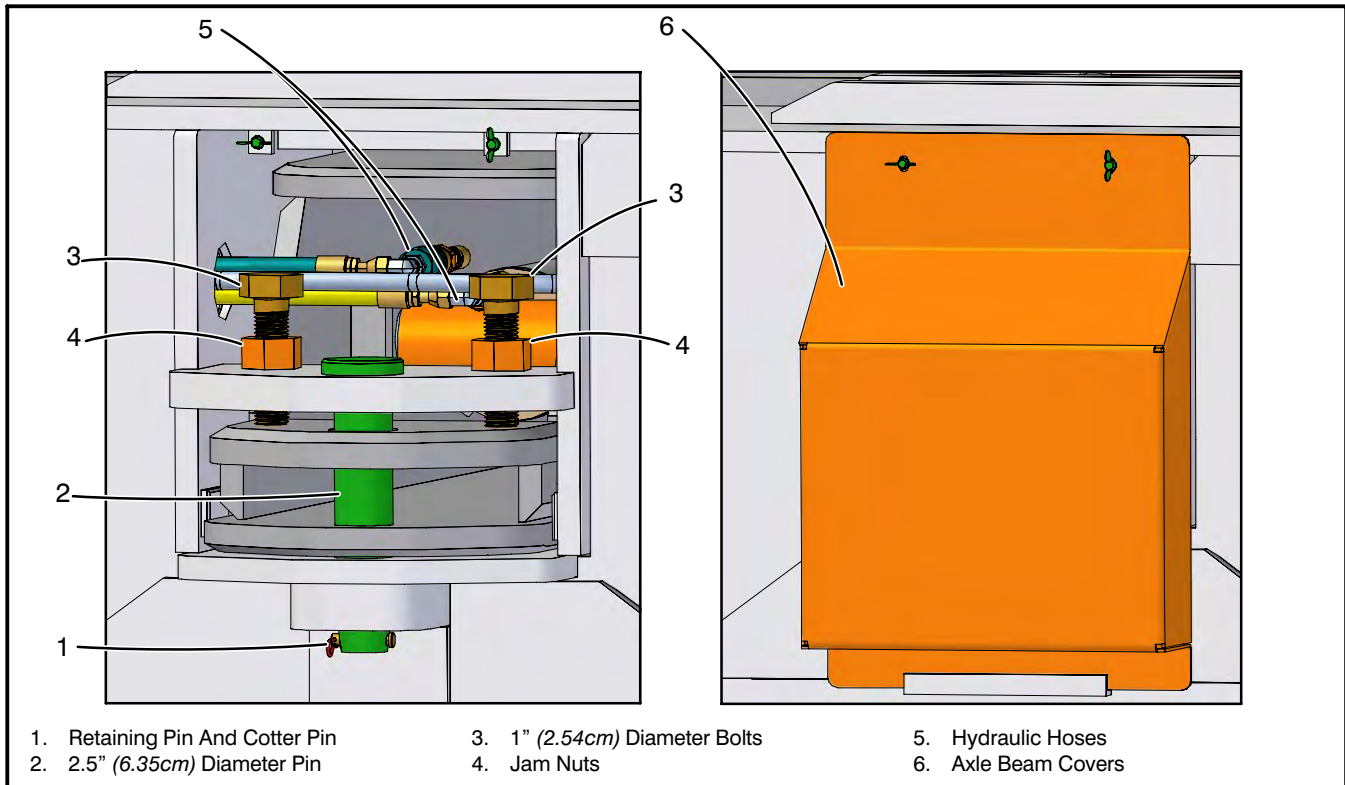

Figure 1-131
3. Remove axle beam covers. Refer to Figure 1-131.
9. Connect side frame to axle beams using the 2.5 in (6.35cm) diameter pins. Refer to Figure 1-131. Remove tri-sling.